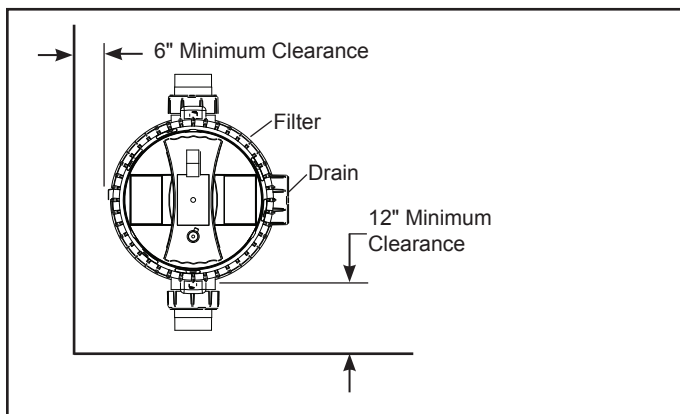

Figure 1. Filter Location - Top View
3. Install electrical controls at least five (5) feet from the filter. This will allow enough room to stand away from the filter during start-up.
4. Allow sufficient clearance around the filter to permit a visual inspection of the clamp ring. See Fig. 1.